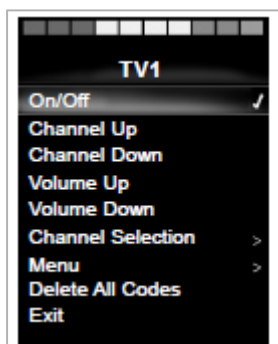

Figure 41
3. The commands for the appliance will appear on the screen. If a command is checked, this means it has a stored IR code. If there is not a check, then there is no stored IR code for that command (figure 41).